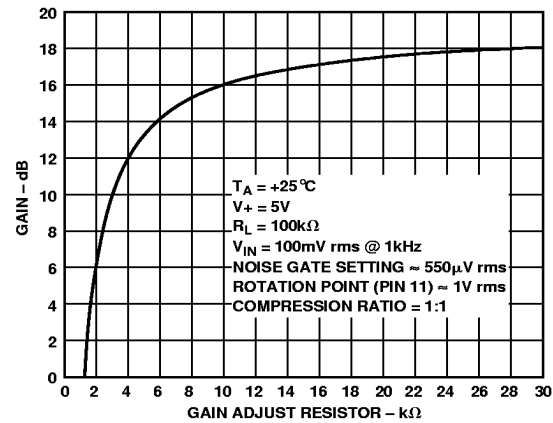
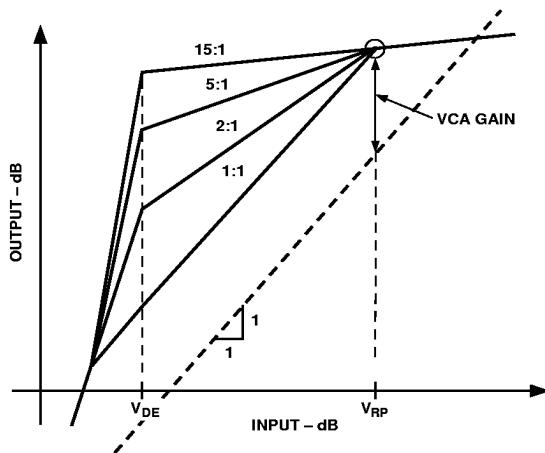
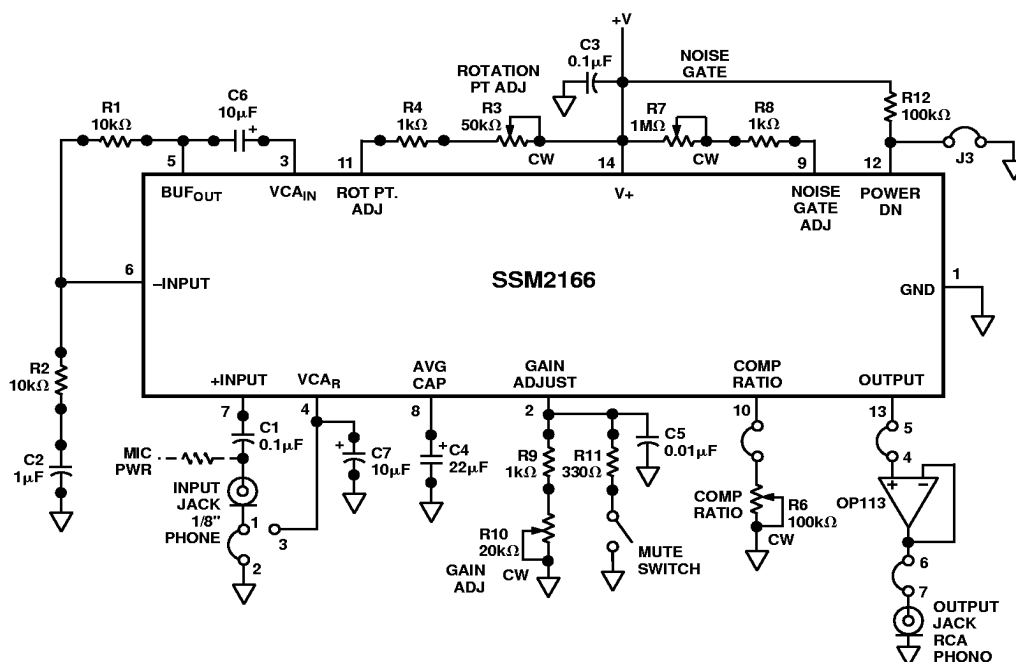
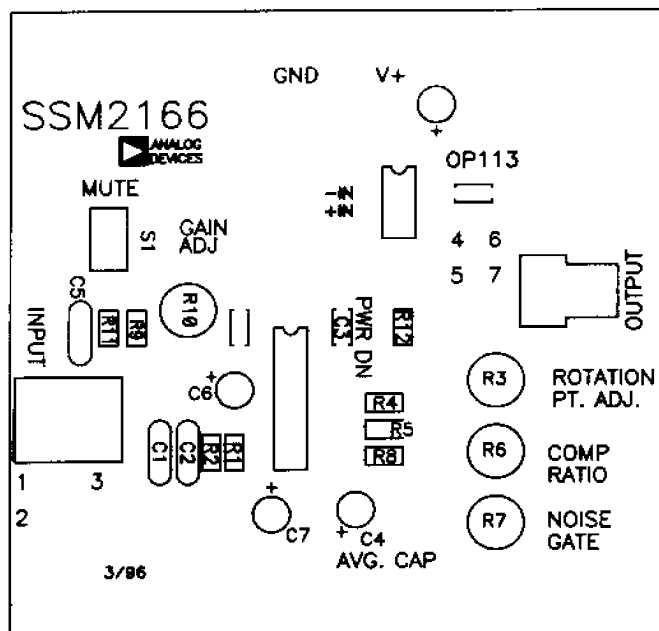

Figure 6. VCA Gain vs.  $R_{GAIN}$  (Pin 2 to GND)
Figure 16. Effect of Varying the Compression Ratio
Figure 22. Evaluation Board
Figure 23a. Evaluation Board Topside Silkscreen
The gain of the VCA at the rotation point is set by the value of a resistor connected between Pin 2 and GND,  $R_{GAIN}$ . The relationship between the VCA gain and  $R_{GAIN}$  is shown in Figure 6. The AGC range of the SSM2166 can be as high as 60 dB. The  $V_{CAIN}$  pin (Pin 3) on the SSM2166 is the noninverting input terminal to the VCA. The inverting input of the VCA is also available on the SSM2166's Pin 4 ( $V_{CAR}$ ) and exhibits an input impedance of 1 k $\Omega$ , as well. As a result, this pin can be used for differential inputs or for the elimination of grounding problems by connecting a capacitor whose value equals that used in series with the  $V_{CAIN}$  pin, to ground. See Figure 22, SSM2166 Evaluation Board for more details.
**Compression Ratio.** Changing the scaling of the control signal fed to the VCA causes a change in the circuit's compression ratio, "r." This effect is shown in Figure 16. The compression ratio can be set by connecting a resistor between the COMP RATIO pin (Pin 10) and GND. Lowering  $R_{COMP}$  gives smaller compression ratios as indicated in Figure 5, with values of about 17 k $\Omega$  or less resulting in a compression ratio of 1:1. AGC performance is achieved with compression ratios between 2:1 and 15:1, and is dependent on the application. A 100 k $\Omega$  potentiometer may be used to allow this parameter to be adjusted. On the evaluation board (Figure 22), an optional resistor can be used to set the compression equal to 1:1 when the wiper of the potentiometer is at its full CCW position.
A schematic diagram of the SSM2166 evaluation board, available upon request from Analog Devices, is illustrated in Figure 22. As a design aid, the layouts for the topside silkscreen, topside and backside metallization layers are shown in Figures 23a, b, and c. Although not shown to scale, the finished dimension of the evaluation board is 3.5 inches by 3.5 inches, and comes complete with pin sockets and a sample of the SSM2166.
Signal sources are connected to the SSM2166 through a 1/8" phone jack where a 0.1  $\mu\text{F}$  capacitor couples the input signal to the SSM2166's +IN pin (Pin 7). As shown in Figure 22 and in microphone applications, the phone jack shield can be optionally connected to the board's ground plane (Jumper J1 inserted into board socket pins labeled "1" and "2") or to the SSM2166's  $\text{VCA}_R$  input at Pin 4 (Jumper J1 inserted into board socket pins labeled "1" and "3"). If the signal source is a waveform or function generator, the phone jack shield is to be connected to ground.
To illustrate how easy it is to program the SSM2166, we will take a practical example. The SSM2166 will be used interface an electret-type microphone to a post-amplifier. You can use the evaluation board or the circuit configuration shown in Figure 22. The signal from the microphone was measured under actual conditions to vary from 1 mV to 15 mV. The post-amplifier requires no more than 500 mV at its input. The required gain from the SSM2166 is, therefore:
If you build your own breadboard, keep the leads to Pins 3, 4, and 5 short. A convenient evaluation board is available from your sales representative. The R and C designations refer to the demonstration board schematic of Figure 22 and parts list, Figure 28.